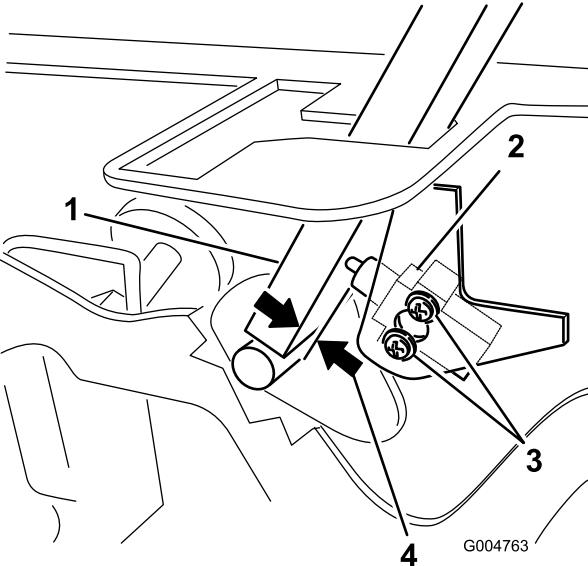

Figure 69
3. Loosen the 2 screws securing the interlock switch (Figure 69).
4. Holding the control lever against the frame, move the switch toward the lever until the distance between lever and switch body is 0.015 to 0.045 inch (0.4 to 1 mm) (Figure 69).